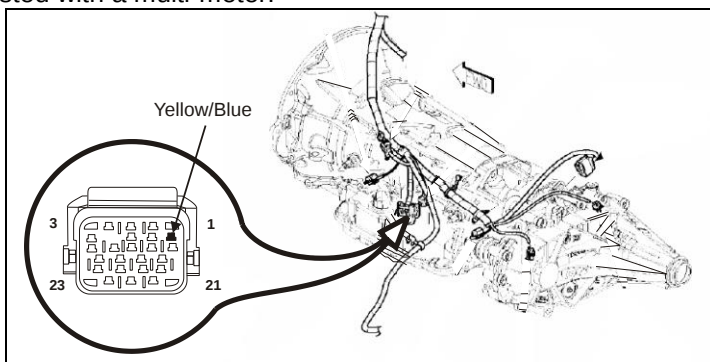

Figure 5.3 – Park Signal Connector Location – 68RFE
- ☐ Locate the 23 pin connector as indicated by the arrow in the picture of the left side of the transmission (Figure 5.3). Solder and seal the long blue wire from the throttle control to the yellow wire with the dark blue stripe (Figure 5.3). Reconnect connector to the transmission. This wire should show 0 Volts in Park or Neutral and approximately 12 V in all other gear selections when tested with a multi-meter.